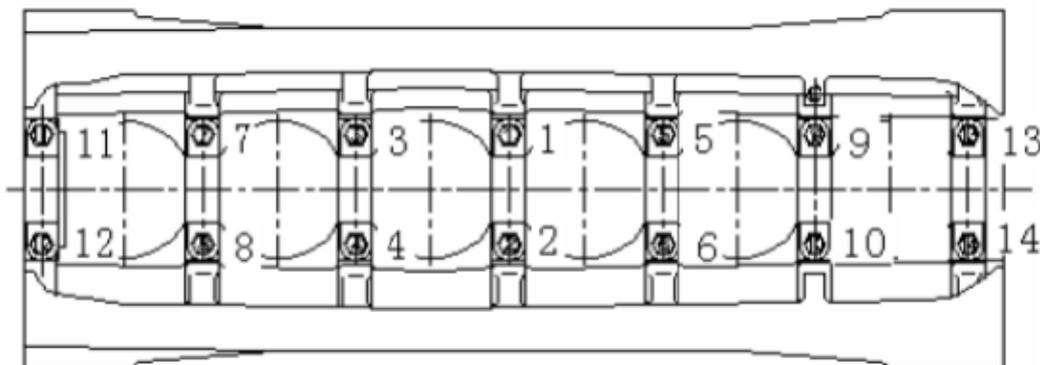

Fig. 3-30 Tighten order of main bearing bolts
- (2) Press main bearing upper shell into cylinder bottom holes and clean up scraped foreign matters.
- (3) Apply clean lubricating oil on inner surface of upper bearing shell.
- (4) Clean up undersurface of cylinder block, and make sure there is no grease.
- (5) Apply sealant on undersurface of cylinder block properly.
- (6) Lift up crankshaft, and clean up oil holes with compressed air, wipe out main journal and connecting rod journal with a towel, and then drop the crankshaft into cylinder body slowly, prevent crashing the crankshaft in this process.
- (7) Clean up upper thrust plate and press it into cylinder body. Then side with oil groove should face outward (face crankshaft).
- (8) Check and make sure the oil seal is flat and free of distortion, and then place it into seal groove on cylinder undersurface with dedicated tool.
- (9) Press lower bearing shell and lower thrust plate (the side with oil groove should face crankshaft) into crankcase and assemble the crankshaft.
- (10) Apply clean lubricating oil on crankcase bolt bearing surface and main bearing bolt thread. Place main bearing bolts and pre-tighten them according to the order shown in Fig. 3-30. Firstly pre-tighten to 70Nm, and then tighten each bolt for another  $90^{\circ} \pm 4^{\circ}$ . Assembly of crankshaft is finished.